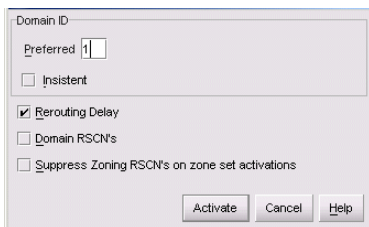

Figure 32 Configure Switch Parameters dialog box (Director 2/140)
2. Click **Configure > Operating Parameters > Switch Parameters**. The Configure Switch Parameters dialog box displays. Figure 32 illustrates this dialog box for the Director 2/140.